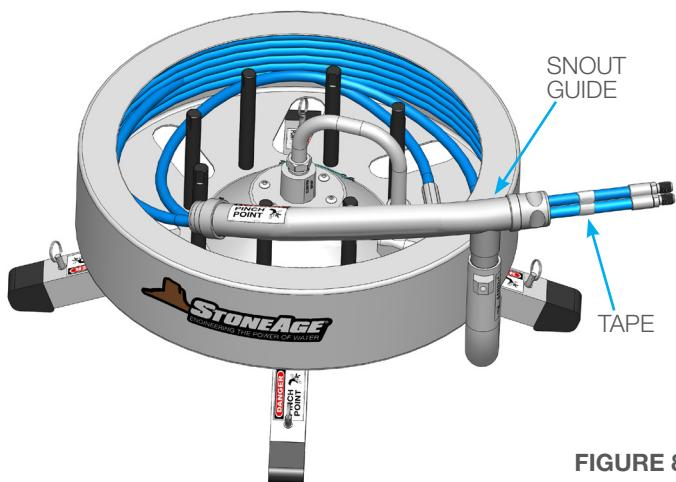

FIGURE 8
2. Wrap temporary tape just behind the male hose ends to keep them from twisting inside the Snout Guide and Snout. (**Figure 8**)